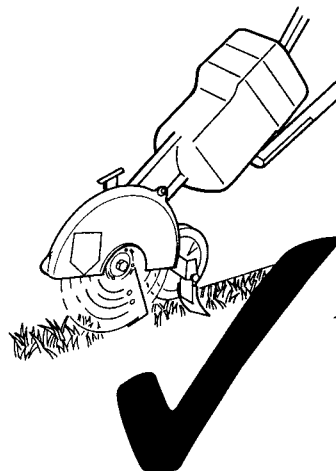

FIG 15
7. As cutting action begins, move the lawn edger forward so that the blade can cut the edge as you move forward (Fig. 15).